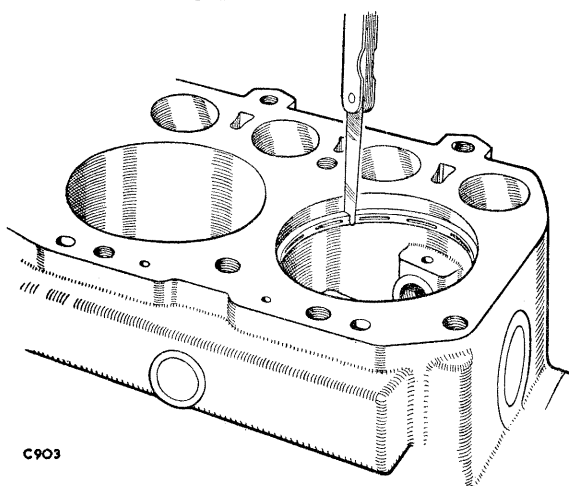

Fig. A-35—Checking piston ring gap
1. Check the piston ring gaps in the cylinder bores, using an old piston as illustrated in Fig. A-35, to keep the rings square in the bore.